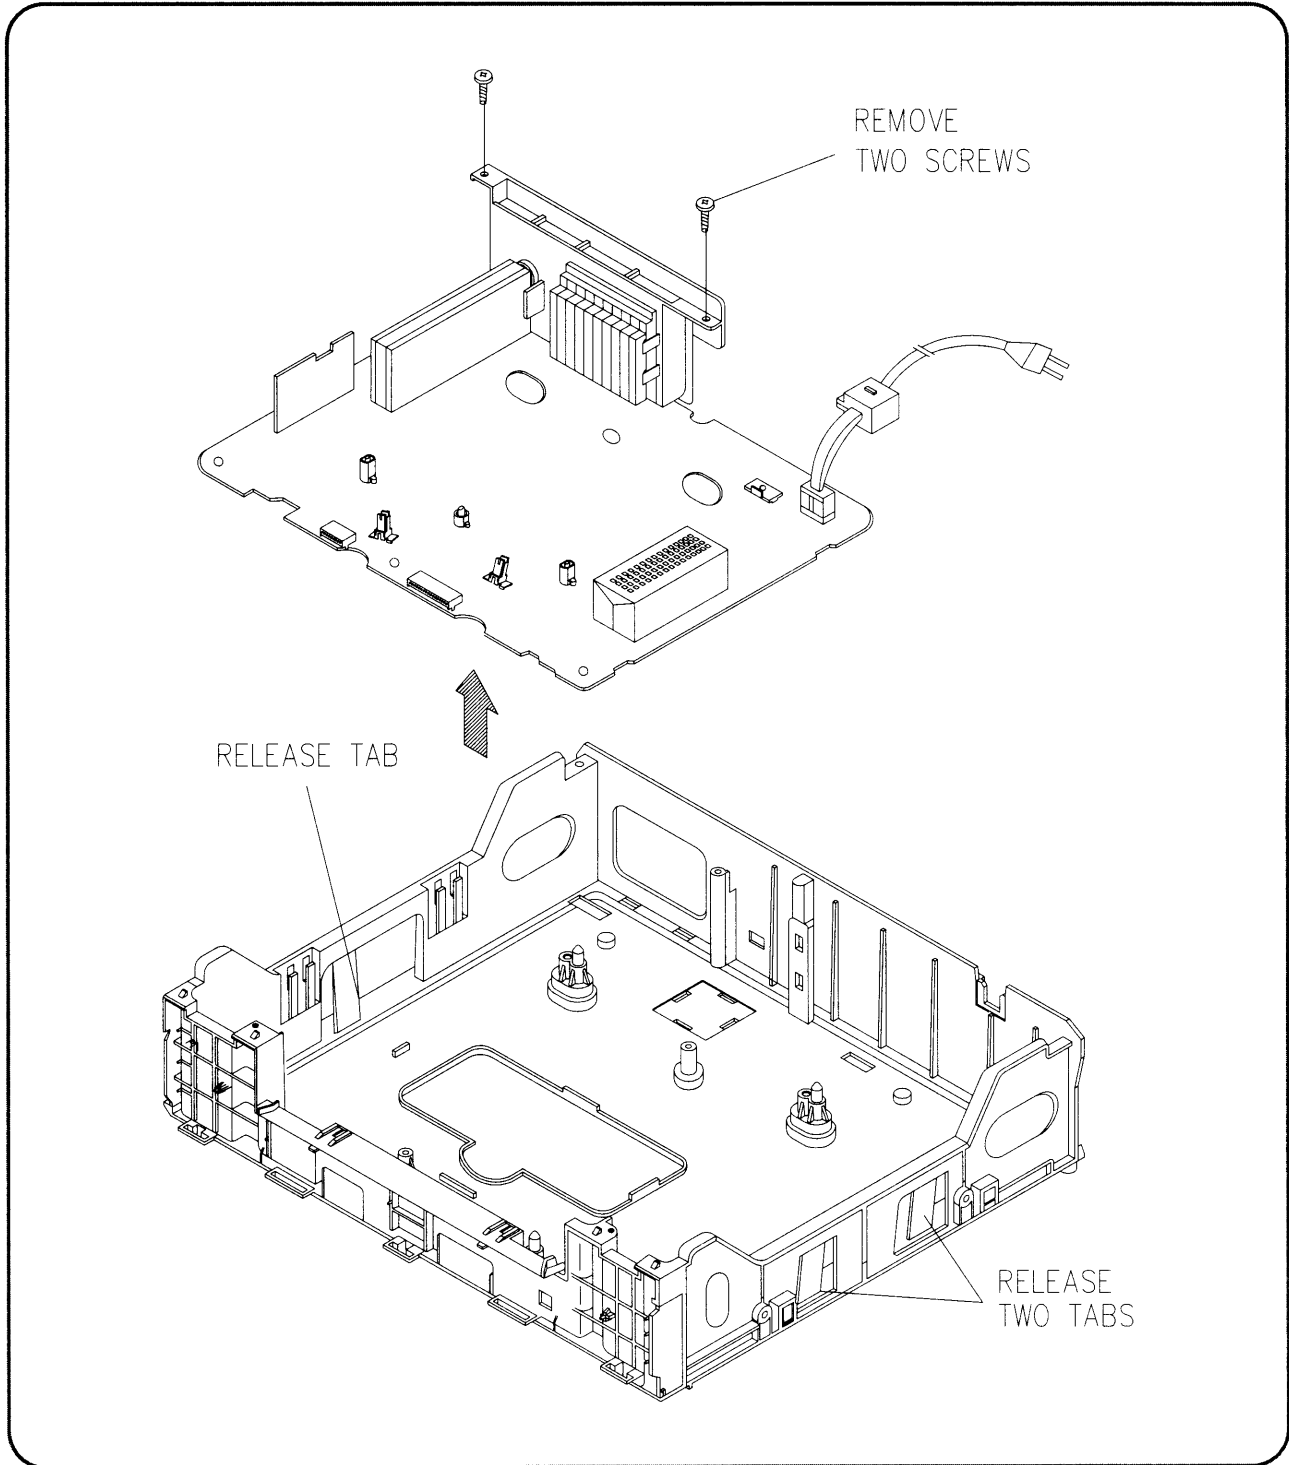

FIG. 7
7. PCB MAIN AS REMOVAL (FIG. 7)